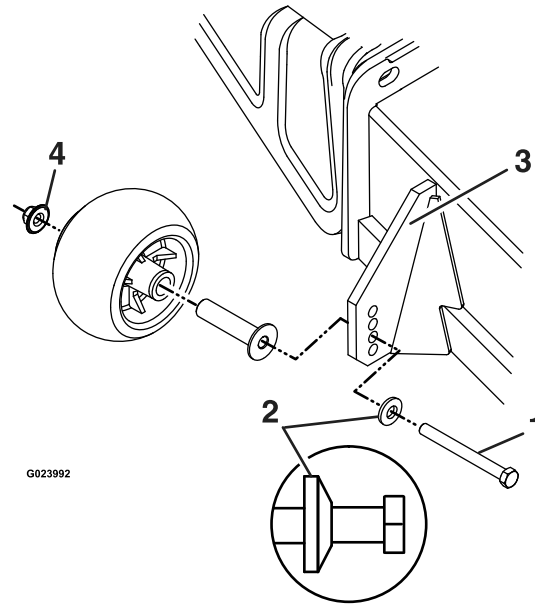

Figure 27
- A. Be sure the roller bolts are installed with the spring disc washer between the head of the bolt and the mounting bracket (see Figure 27).